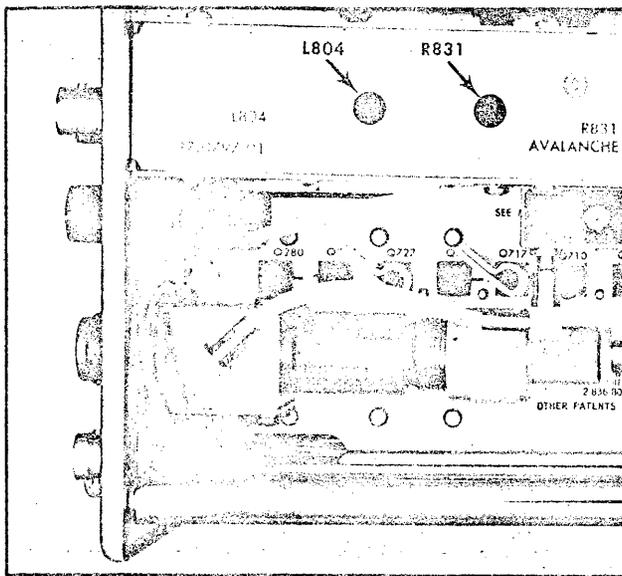
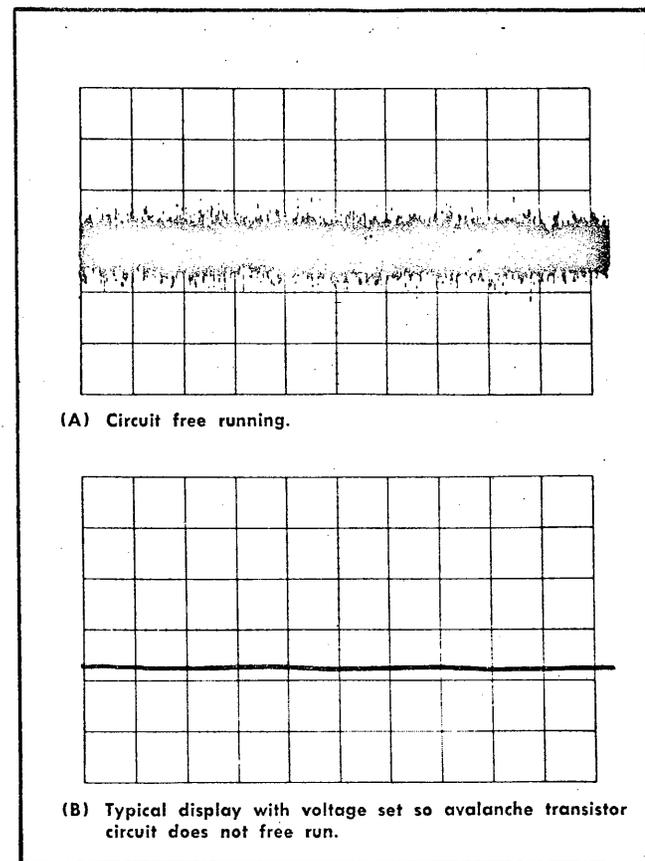

Fig. 6-17. Phase-lock circuit adjustments.
Fig. 6-18. Typical displays when adjusting the avalanche voltage.
b. With the INT 1 MHz REF FREQ switch in the OFF position, depress the LOCK CHECK button and adjust the Avalanche Volts adjustment R831 (Fig. 6-17) clockwise until avalanche occurs, then ccw from this point about $\frac{1}{8}$ turn. Free running avalanche appears as a wide, noise trace or a definite increase in the noise level on the trace. See Fig. 6-18. Turn the adjustment $\frac{1}{8}$ turn counterclockwise from the free running state.